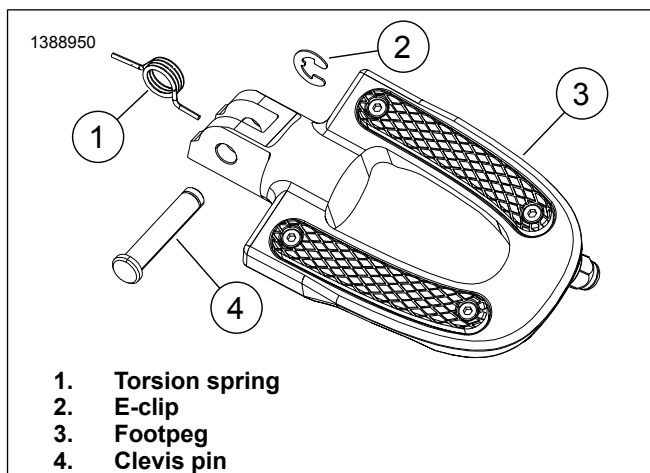

Figure 2. Rider Footpeg Torsion Spring Installation
1. **Softtail models:** Figure 2 Remove pin (4) and E-clip (2). Retain for later use.
1. Figure 2 Insert short leg of torsion spring (1) into hole in **new** footpeg (3).